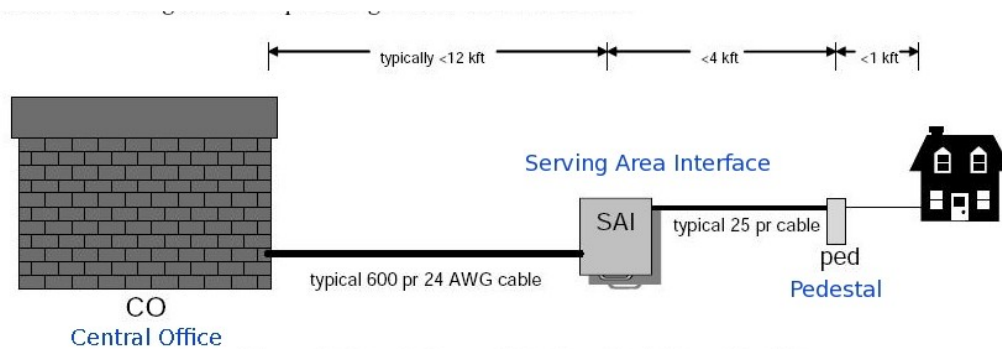

Figure 1. Direct Copper Telephony Feed From the CO
conductors (typically copper twisted pair) out of the Central Office (see Figure 1 below), regardless of the distance of the customer from the Central Office (CO). The majority of the telephony equipment in the CO is powered by commercial AC-fed -48 VDC N+1 redundant rectifiers, backed up by 3-4 hours of batteries (typically multiple strings of flooded batteries). This same nominal 48 VDC appears across the tip and ring pair at the customer's premises. During a commercial power outage, most COs have a standby engine-alternator that will take over the AC load (thus feeding the rectifiers) for outages lasting longer than a minute. For some smaller COs, there is not a permanent on-site engine-alternator. In these cases there is at least 8 hours of battery backup (both the 3-4 and 8 hour minimums are set by federal and state rules in the U.S.), and there is a genset plug on the outside of the building to which a portable generator can be connected.